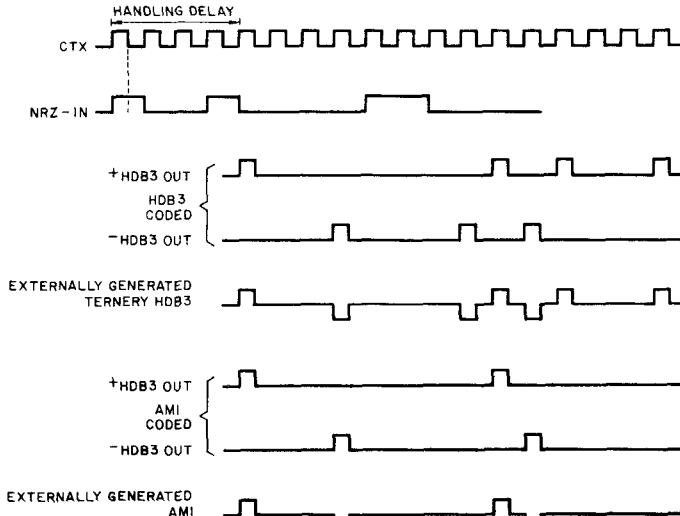
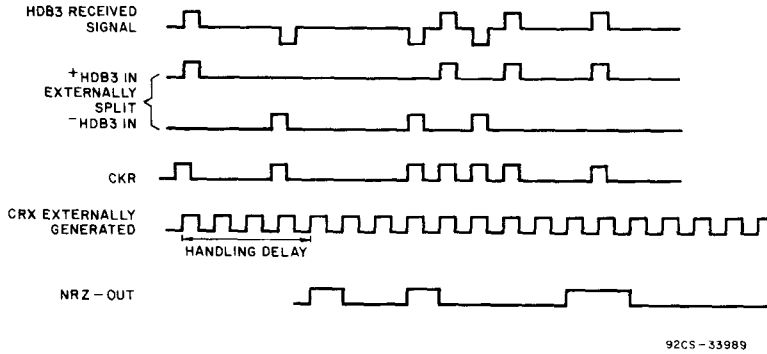
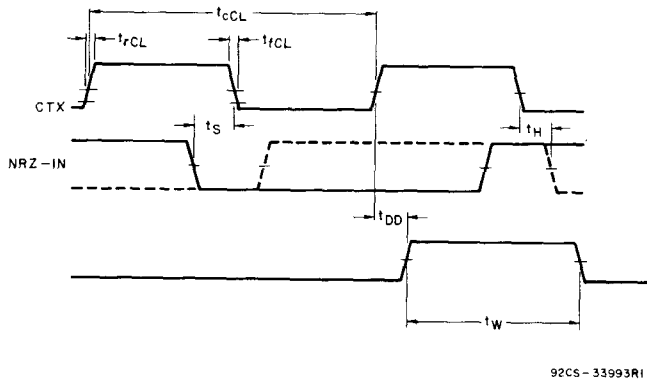

Fig. 2 - Transmitter coder operation timing waveforms - NRZ to HDB3/AMI coding.
Fig. 3 - Receiver decoder operation timing waveforms - HDB3 to NRZ decoding.
Fig. 4 - Transmitter coder timing waveforms.
* See Fig. 4
§ See Fig. 5 * See Fig. 4 † See Fig. 2 # See Fig. 3
Transmitter Coder (See Fig. 2)
Receiver Decoder (See Fig. 3)
The CD22103 is designed to code and decode HDB3 signals which are coded as binary digital signals (NRZ-In) and (+ HDB3 IN, -HDB3 IN), accompanied by sampling clocks (CTX) and (CRX). The two binary coded HDB3 outputs, (+ HDB3 OUT, -HDB3 OUT) may be externally mixed to create the ternary HDB3 signals (See Fig. 2).